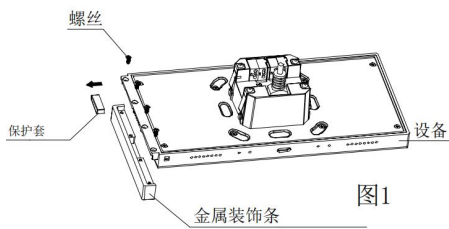

图1
- 1.Remove the 4 screws that fixed the metal decorative strips on the KNX Smart Touch S7 and keep the screws,then remove the decorative strip and protective cover.As shown in Fig.1;
- 1.用螺丝刀取出 KNX 智能屏 S7 上固定金属装饰条的 4 个螺丝，并将螺丝保存好。然后取下金属装饰条和套在插针上面的硅胶保护套。如图 1 所示；